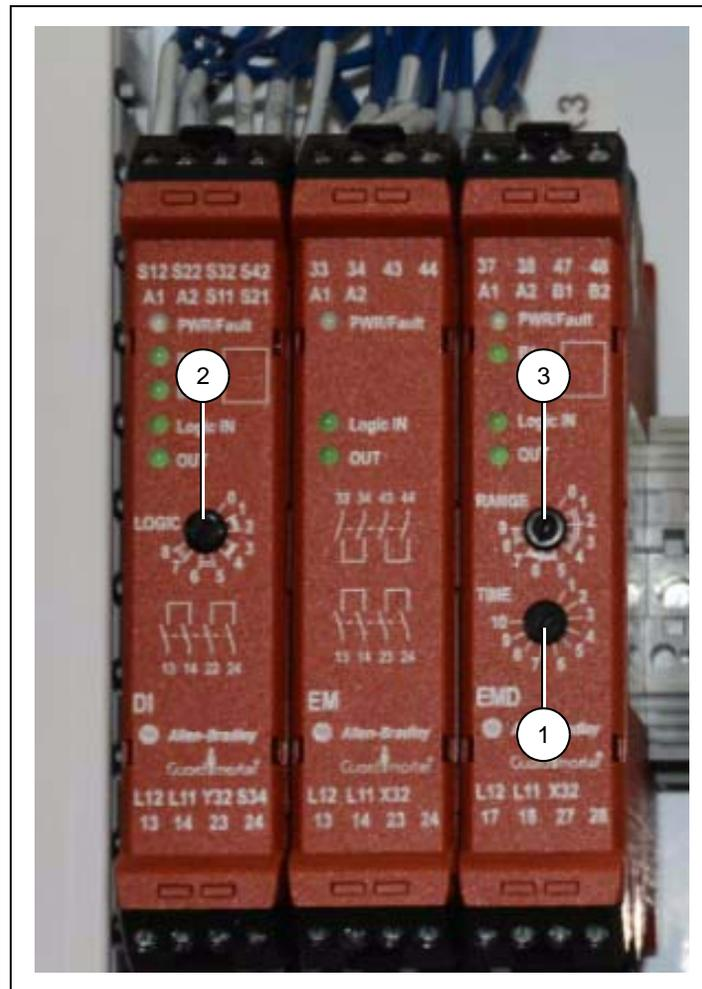

Figure 10B
6. Set the DI Relay Logic setting to “2”. (See Figure 10B on Page 81.)
7. Set the EMD Relay Range setting to “3” and the Time setting to “1”. (See Figure 10B on Page 81.)